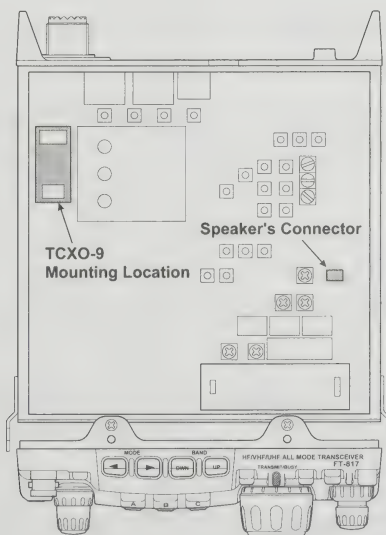

Figure 3
3. Referring to Figure 3, locate the factory-installed REF UNIT on the board. Remove the factory-installed REF UNIT from the board, then position the **TCXO-9** so that its connectors are aligned with the mounting pins on the board, and push it into place.